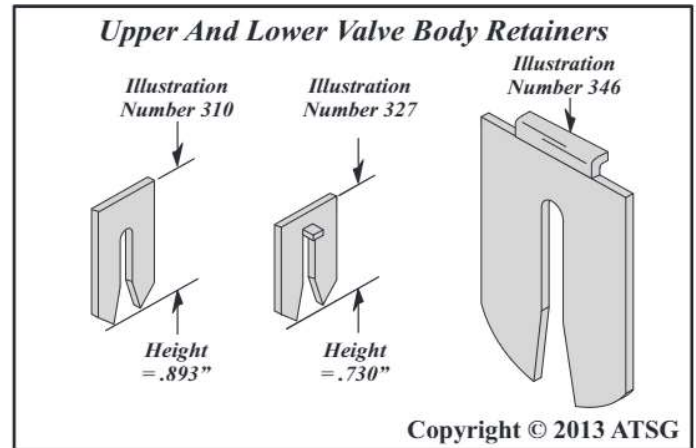

Figure 175
- Note: There are 3 different size retainers used in upper and lower valve bodies. Dimensions and illustration numbers are in Figure 175.**